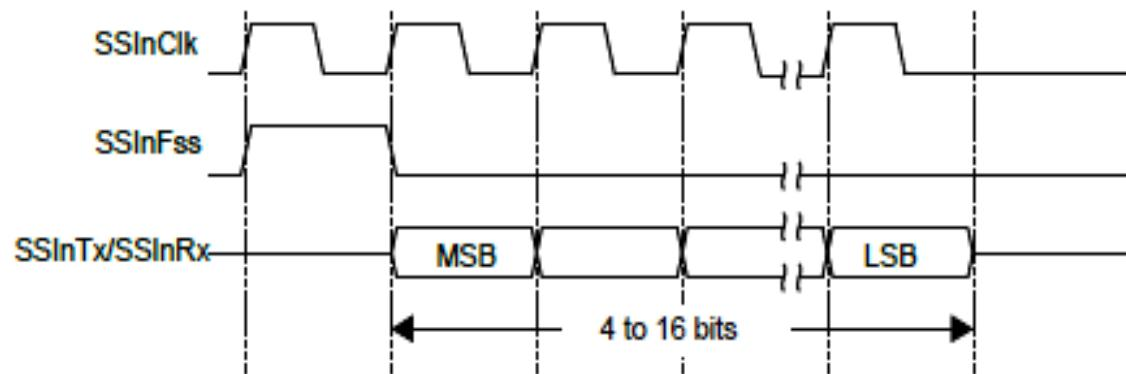

Figure 8.5 Operational timing sequence of the TI synchronous serial frame.
- Figure 8.5 shows an illustration for the data transmission/reception using the **TI Synchronous Serial frame**. The operational sequence for data transmitting/receiving in this frame is: